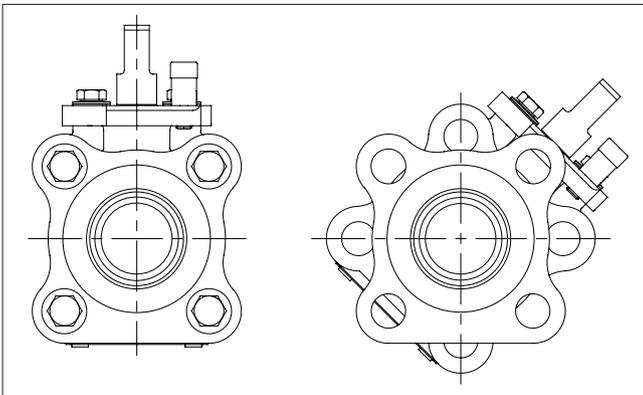
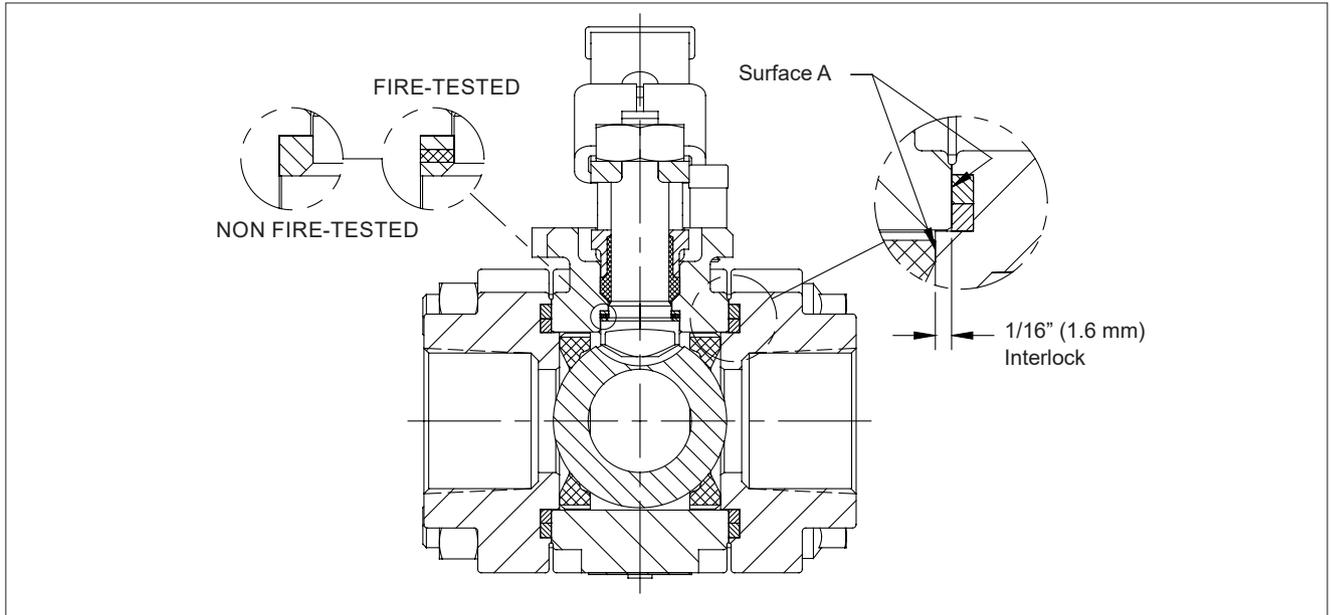
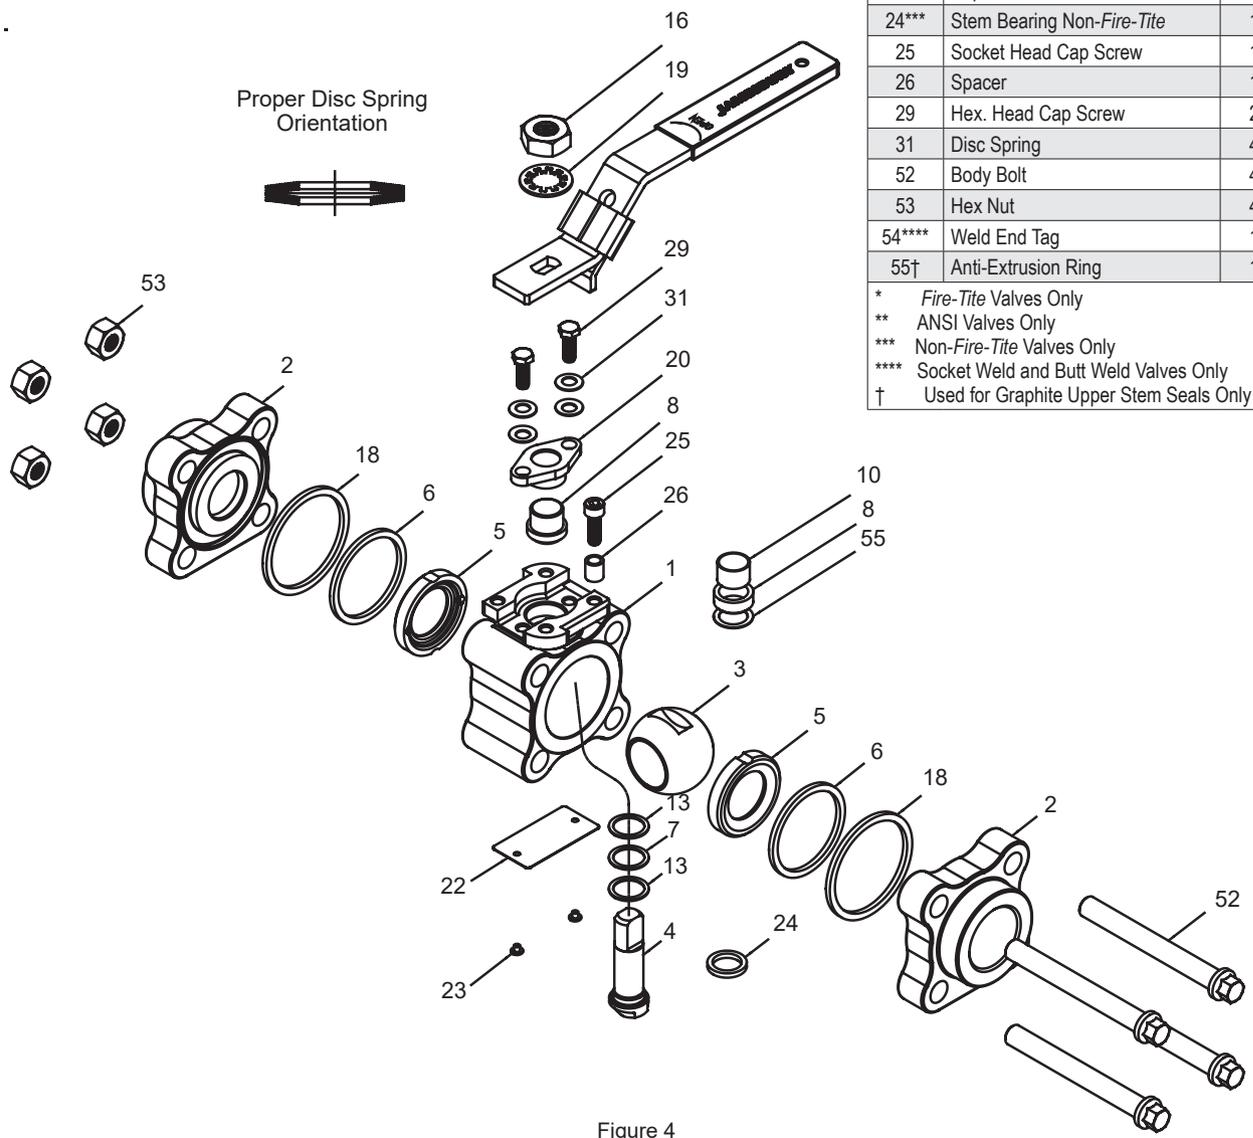

Figure 1.
Figure 3.
Figure 4
3. Remove the handle nut (16) and handle (17).
4. Loosen all four body bolts (52). Remove three from the valve. Leave the remaining bolt in place with the hex nut (53) backed off at least 1/4" (6.4 mm).
5. For positive alignment and ease of in-line assembly, each end cap is interlocked approximately 1/16" (1.6 mm) into the body as shown in **(Figure 3)**. To overcome this feature during in-line disassembly it is necessary to separate each cap at least 1/8" (3.2 mm) from the body. Sharply rap body and caps with a block of wood or plastic mallet to break loose body seal. Spread end caps and swing the body out of the line. If pipe does not allow simple spreading, remove the remaining body bolt and rotate center section per **(Figure 1)**. This will improve access to the end cap flange for ease of spreading. Swing the valve body (1) out from between the end cap (2). Be careful not to damage the sealing surfaces "A" **(see Figure 3)** at each end of the valve.
1. With the valve swung to the out-of-line position, insert from the inside of the body a stem bearing (13), a secondary stem seal (7), then another stem bearing (13) into the stem bore. For non-Fire-Tite valves use one stem bearing (24). See **(Figure 3)** and parts list **(Figure 4)**.
3. Holding the stem (4) in place from the bottom, install the stem seal (8) and the compression plate (20). For valves with graphite stem seals (8), install upper stem bearing (10) and anti-extrusion ring (55) prior to installing the stem seal (8).
4. Place the disc springs (31) on top of the compression plate over the bolt holes and insert the hex. head cap screws (29) and bring them down hand tight with the disc springs. **NOTE:** See **(Figure 4)** for proper disc spring orientation.
5. While pressing the stem upward from inside the body, torque the hex head cap screws (29) applying the torque shown in **(Table 2)**. Apply torque evenly alternating between the two hex head cap screws so that compression plate will be parallel with the valve body bonnet.
6. Align the stem blade with the ball slot. Insert the ball (3) and then rotate the stem (4) so that the ball is in the closed position.
7. Working at either end of the body (1), place a seat (5) into the body. Fit it snugly against the closed ball. **NOTE:** The sealing surface of the seat is toward the ball (**see Figure 4**).
8. Place an inner body seal (6) and an outer body seal (18) into the machined sealing groove of the body cap (2) (**see Figure 3**). **NOTE:** On those valves with metal seats (DH seat/seal code), there is a one piece body seal (6). Be certain that the groove and seal are clean.
10. Turn the stem (4) so that the ball is in the full open position.
13. Bolt the valve together with lubricated body bolts (52) and hex nuts (53). Tighten these bolts evenly and alternately. (**See Table 1 for the torques.**)
14. Attach the handle (17) and secure it with the handle nut (16) applying the torque shown in **(Table 3)**.
- From **Figure 4**, the ballooned part number, part name and quantity required